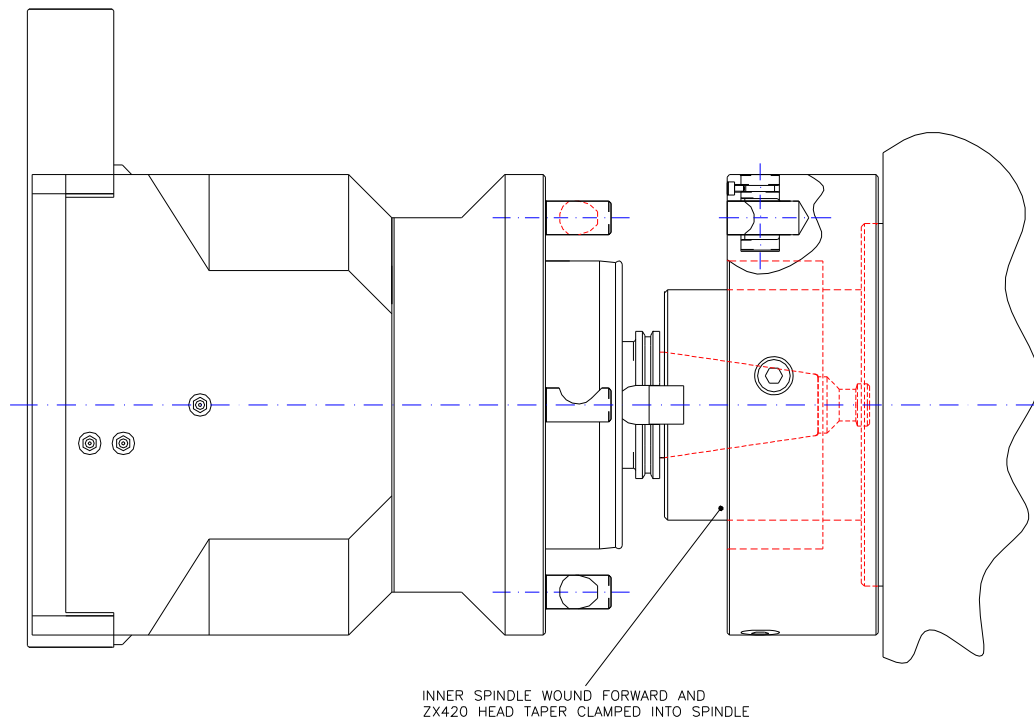

Fig 1.03 Locating and clamping the ZX420 head into the inner spindle
5. Locate the shank of the ZX420 head into the taper of the machines inner spindle and clamp it into the spindle using the machines pull-stud or draw bar arrangement. (See fig 1.03)